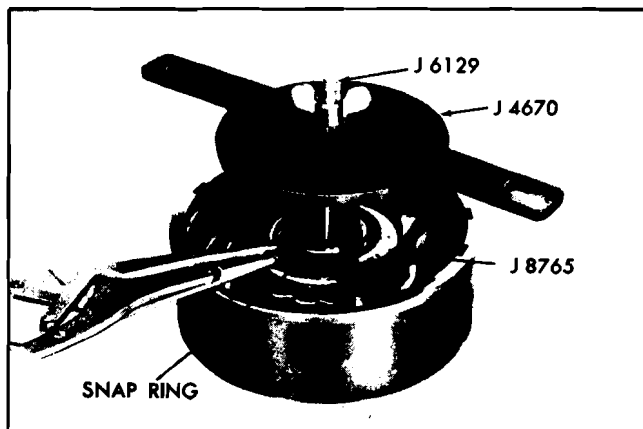

Fig. 7E-95 Removing Direct Clutch Piston Snap Ring
7. Remove direct clutch piston (Fig. 7E-96).